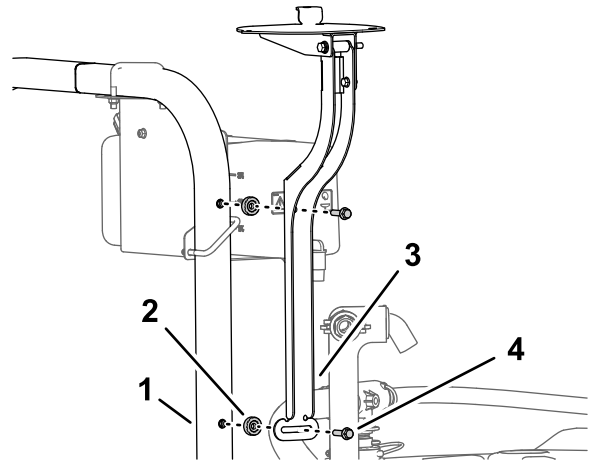

Figure 153
1. Assemble the receiver mount and spacer (3/8 x 7/16 inch) to the roll bar with the flange-head bolt (3/8 x 1-1/2 inches) as shown in Figure 153.